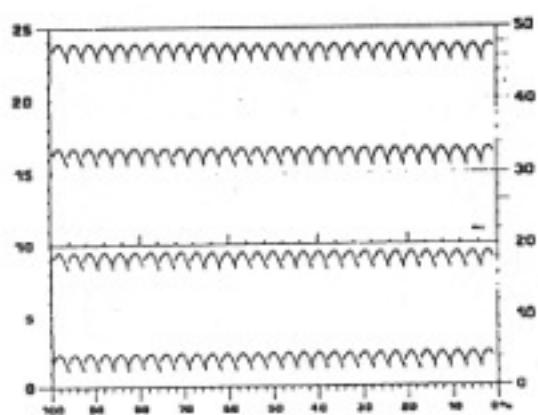
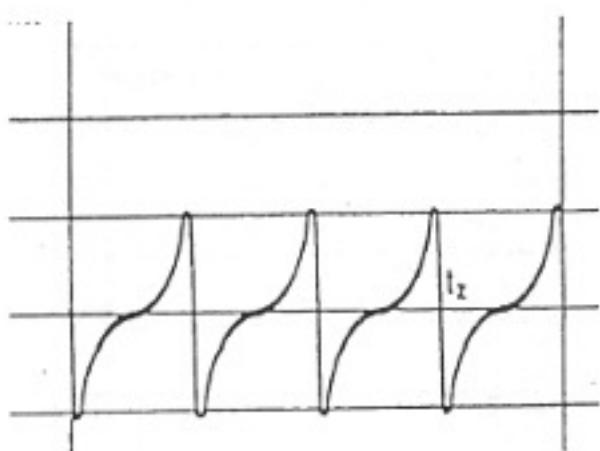

FIGURE 23. Alternator Raster Pattern.
FIGURE 24. Inductive Sensor Signal.
- Pressing this key once in the **R** mode displays an alternator output pattern on the scope. Figure 23 shows an example of this waveform. Press this key once again and the Lab scope will be displayed. This Lab scope function is used to display Electronic Systems signals. Figure 24 and 25 show examples of these waveforms.